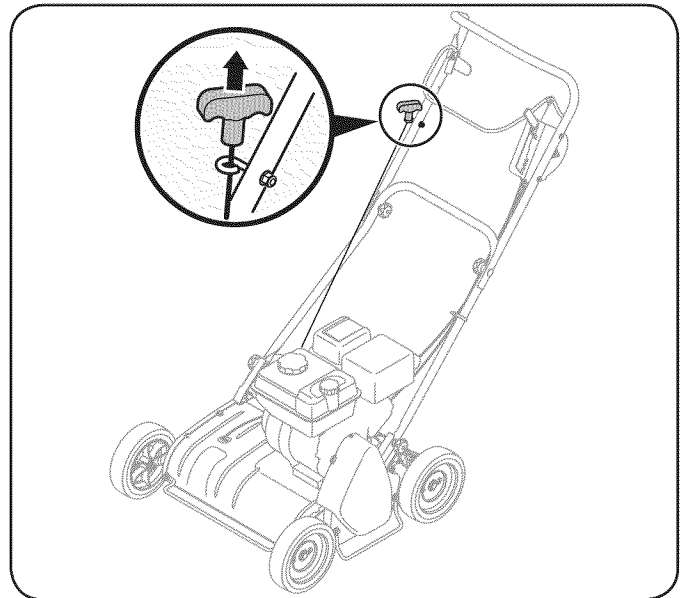

Figure 8
3. Grasp the recoil starter handle and pull the rope out slowly, until it pulls slightly harder. Let the rope rewind slowly. See Figure 8.